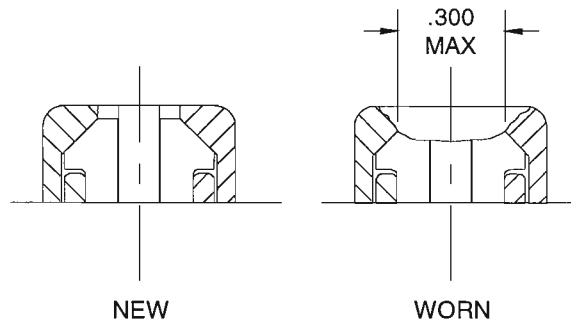

Figure 1.
- (1) Visually check igniter for mechanical damage. Reject igniter for the following conditions: signs of impact damage, connector well insulator or firing end semiconductor is cracked or loose, terminal button exhibits heavy erosion or pitting.
- (2) Check firing end shell for chafing or fretting wear. This wear is not to exceed .015 " for wear more than one-half the circumference of the shell.
- (3) Reject if shell body is swollen or distorted.
- (4) Check igniter for electrical erosion (Figure 1). Use Champion CT494 gauge to determine if wear exceeds .300" (Max). Reject igniter if measurement is greater than .300".